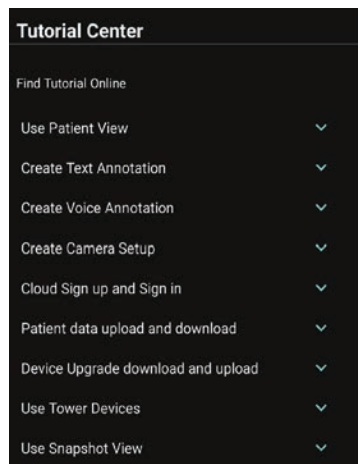

Figure 60. Tutorial Center Menu
3. Once the **Tutorial Center** screen displays, tap the **Tutorial** to display (Figure 60).